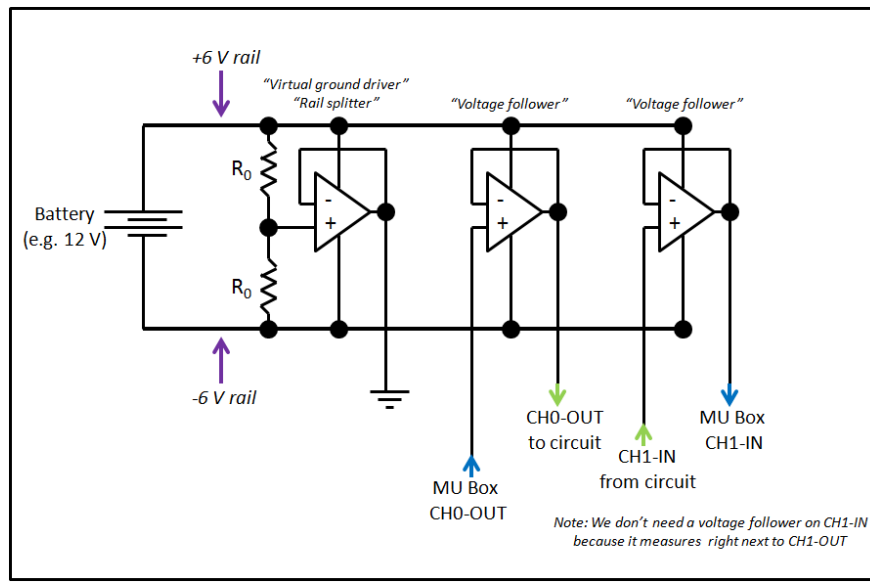

Figure 4: Circuit to power the op-amps. We split the battery voltage to power the op-amps using a voltage divider (e.g.  $R_0 = 10 \text{ [k}\Omega\text{]}$ ).
Your breadboard will have two main interconnected circuits: A circuit to power your op-amps, and a circuit to measure a test impedance. Please study both parts of the circuit (Figs. 4 and 5) before you begin, so you can plan you breadboard accordingly.
1. Op-Amp circuit: Build the Op-amp breadboard that we will use to measure the loudspeaker impedance, as described below and shown in Figure 4. The purpose of the Op-amps is to isolate the measurement from the finite impedance of the MU box. The circuit diagrams of the MU box are provided in the ‘DOC’ folder of the software package. Based on these circuit diagrams, one may determine the Thévenin source impedance of the output voltage, and the input (load) impedance of the input circuits. There are two critical op-amps, one for
- (b) Drive the circuit from CH0-OUT of the MU-box. *NOTE: If you do not use an Op-amp with a low impedance output (0 [ohms]), as described in Fig. 4, your results will not be as good as they could be.*